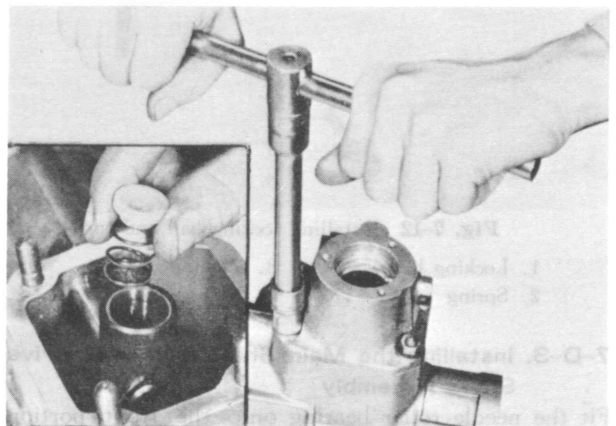

Fig. 7-20 Installing control case
2. Insert the spring and the seat into the control lever end and install the control case assembly to the extension together with the gasket. (Refer Fig. 7-20)